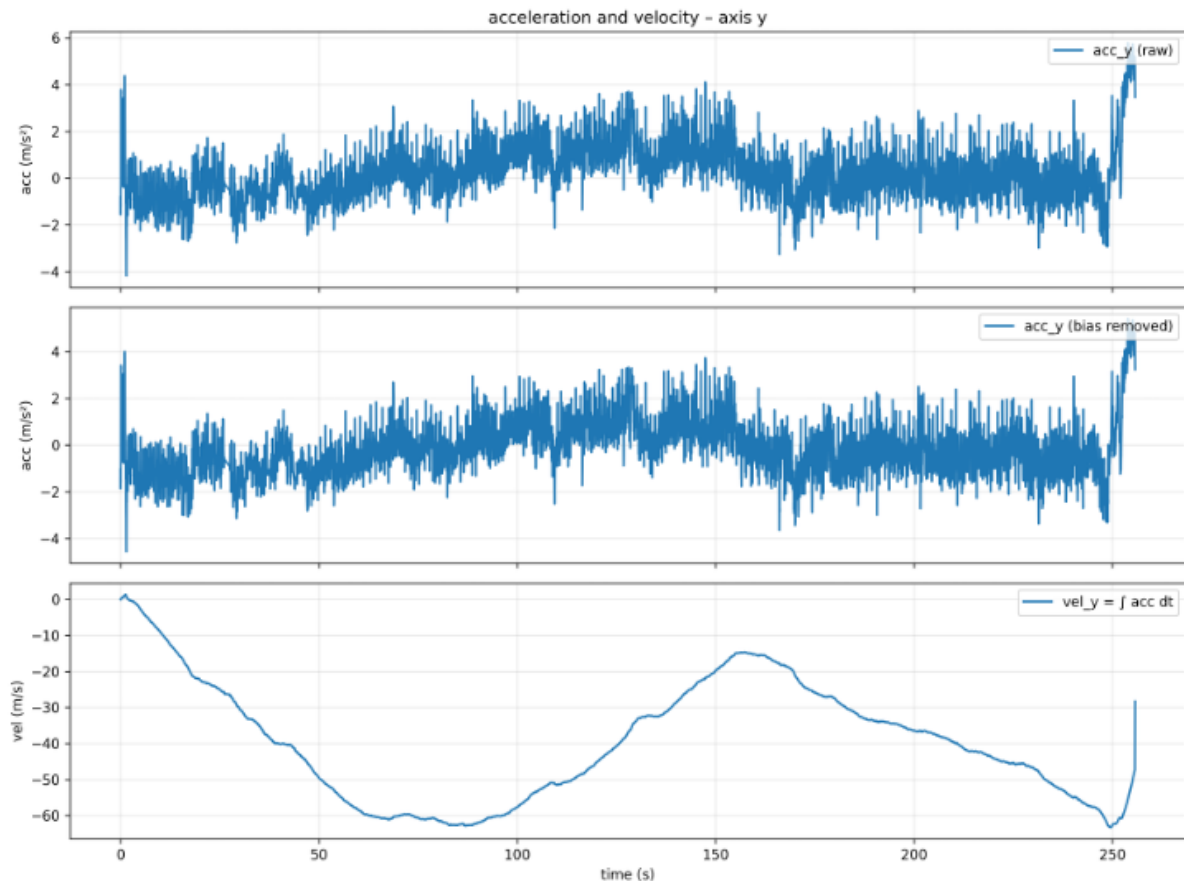

Figure 14: Acceleration and velocity in Y-axis
**Task:** Plot acceleration in Y and velocity in Y (integrate once) vs. time as two subplots (Fig. 14).